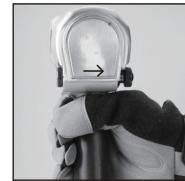

Figure 4
- How to remove/loosen threaded fasteners. Push the valve stem (F) backward as indicated by "R" marking on the lable. Press the trigger. Then the tool anvil runs counterclockwise. (See Figure 4)